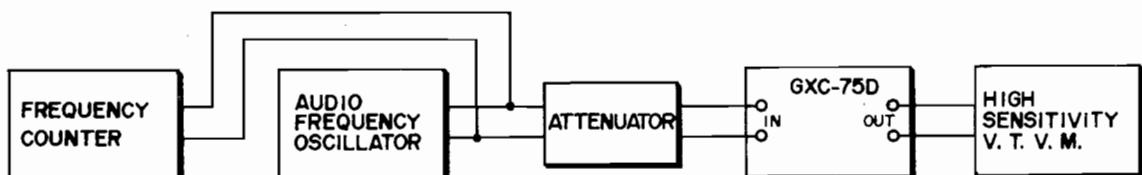

Fig. 21 Various Measuring Instrument Connections
2. PLAYBACK LEVEL ADJUSTMENT (Refer to Figs. 21 and 22)
3. RECORDING LEVEL ADJUSTMENT (Refer to Figs. 21 and 22)
- (1) 19 kHz FILTER ADJUSTMENT
- (Refer to Figs. 21 and 25)
- a) Connect the various measuring instruments as shown in Fig. 21.
(2) RECORDING CIRCUIT ADJUSTMENT
(Refer to Figs. 21 and 25)